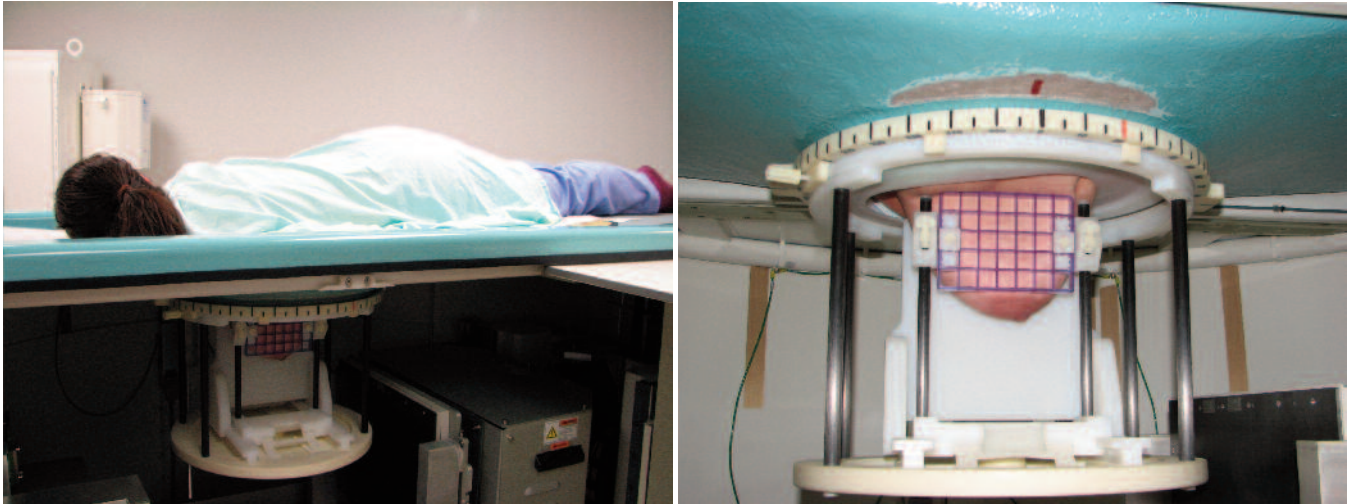

Figure B.3.1-2: Patient's breast is immobilized by the Koning Biopsy Bracket
- The patient's breast is immobilized (Figure B.3.1-2) by the Koning Biopsy Bracket by compression with the grid oriented to give the minimal skin-to-lesion distance, as determined from previous imaging